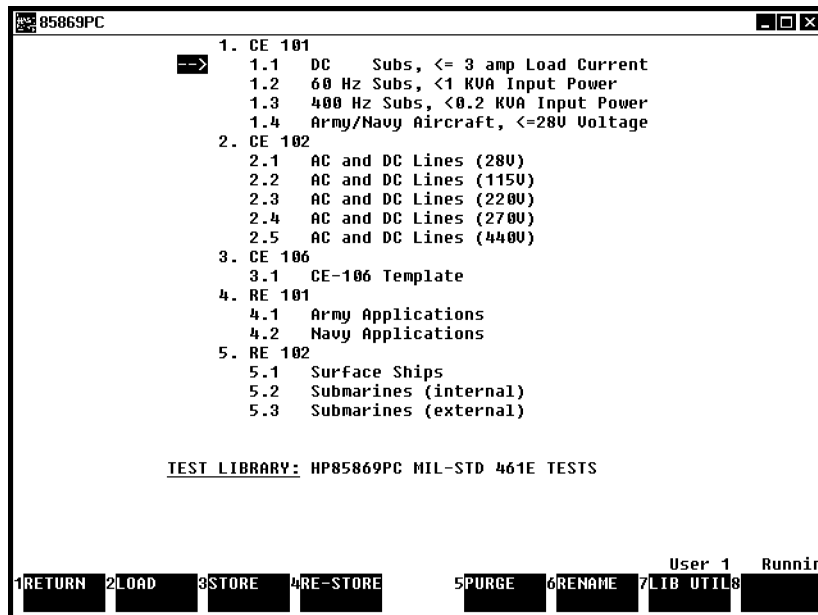
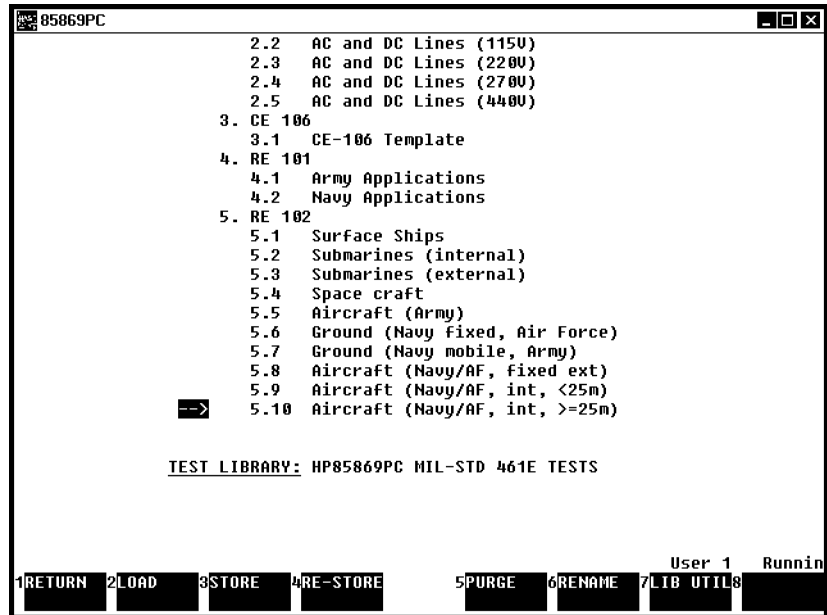

Figure 6-11. MIL-STD 461E Tests Part 1
Figure 6-12. MIL-STD 461E Tests Part 2
- MIL-STD 461E Tests shown in Figure 6-11 and Figure 6-12